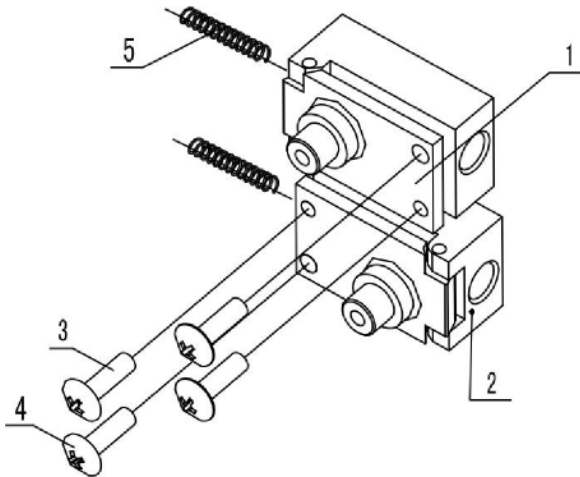

Figure 9. (1) Driven Wheel Seat (Adjusting Block), (2) Driven Wheel Seat (Adjusting Block), (3)/(4) Adjusting Screws, (5) Springs
8. If the sealing belt is running off the guide wheels, make adjustments to the screws that are found on the driven wheel seat (**Figure 9, Item #1 & 2**)